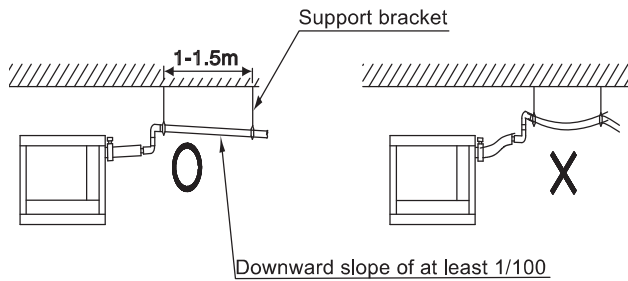

Fig. 10
- Install the drain piping as short as possible with downward inclination of 1/100 or more and such that air may not stagnate. (Refer to Fig. 10)
- Install supports at a distance of 1 to 1.5m so that the piping may not deflect. (Refer Fig.10)
- Make sure to use the attached drain hose (2) and the metal clamp (1).